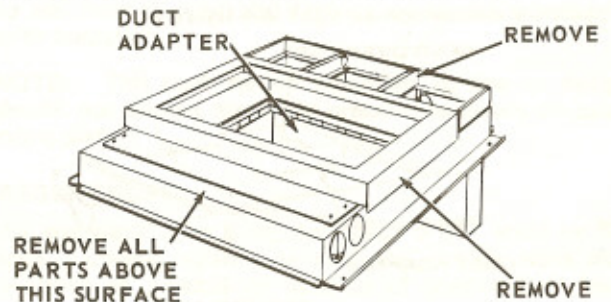

FIGURE 9
2. Top section of old base must be removed. (Top section is held by small spot welds, see figure 9.)